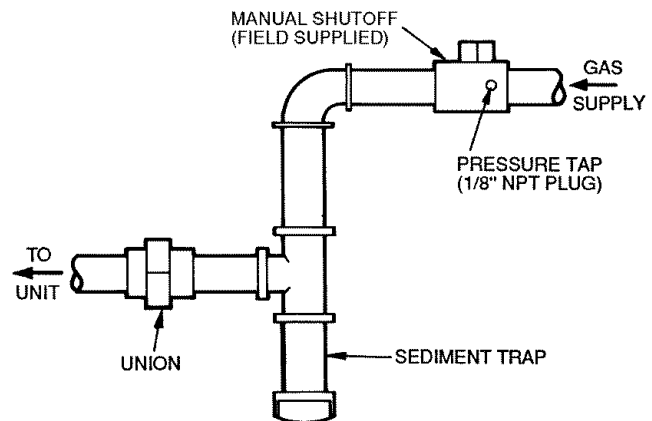

Fig. 4 — Field Gas Piping
2. Connect pressure gage to supply gas tap, located on field-supplied manual shutoff valve (see Fig. 4).